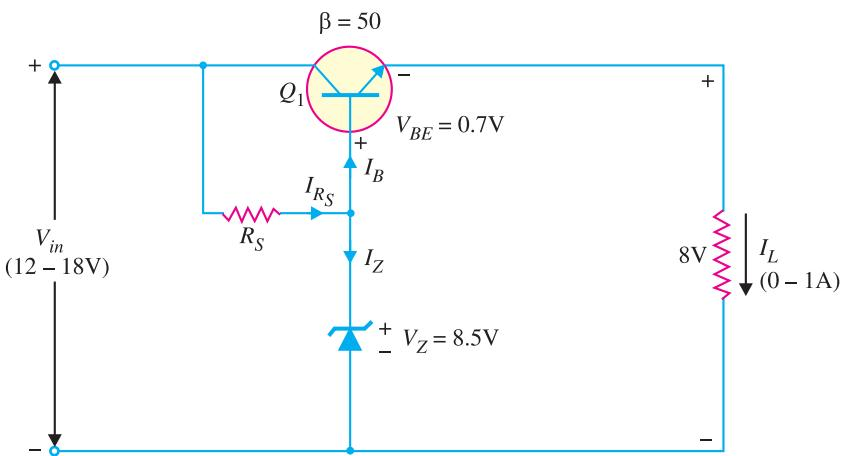

Fig. 17.16
**Example 17.15.** In a series transistor voltage regulator (See Fig. 17.16), the load current varies from 0–1A and the unregulated d.c. input varies from 12–18V. The 8.5V zener diode requires atleast 1 mA of current to stay in its regulating region (i.e. \$I\_{Z(min)} = 1 \text{ mA}\$).